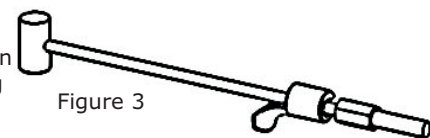

Figure 3
1. Pull the adjustment ring (6) into the locking arm (3), then attach the wire (5) in the adjustment ring (6).
2. After that, thread the wire protection (17), with the arched tongue outwards facing the cylinder, into the other end of the wire as shown in figure 3. Push the wire protection securely into the hole on the locking arm. Ensure that the wire protection remains securely in place when you attach the end screw (13). Make sure that the tongue of the wire protection follows the wire when pulled into release brake position.
3. Screw the bolt (11) through the bushing (7), the locking arm (2), the spring (9) and the washer (14) into the outer clamp in the locking arm (3). Use Loctite 2701 on the hinge in the outer clamp (3). NB! The hinge should be sprayed with Loctite Activator 7649 before Loctite 2701 is used.
4. Assemble the handle (1) with the outer clamp (3) using the bushing (8). Use Loctite 2701 on the hinge in the outer clamp (3). Place the sticker (18) over the hole for the Allan key.